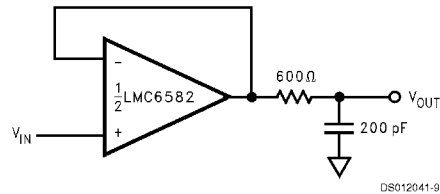

**FIGURE 6. An Input Voltage Signal Exceeds LMC6582/4 Power Supply Voltages of  $V_S = 1.8V$  with No Output Phase Inversion**
*Figure 6* shows an input voltage exceeding both supplies with no resulting phase inversion on the output.